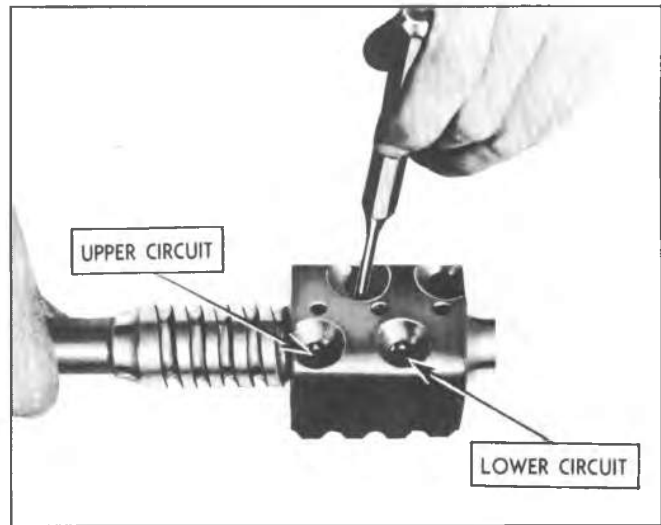

Fig. 3B-12--Filling Ball Circuits--Corvette
5. Corvette only (figs. 3B-12 and 3B-13):